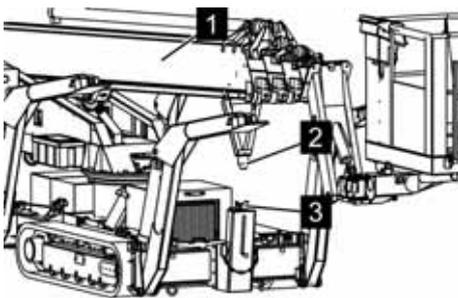

Fig. 74: Lifting the telescopic arm
1. ➤ Lift the telescopic arm (Fig. 74/1) until the attachment centring (Fig. 74/2) is about 35 to 40 cm away from the telescopic arm attachment (Fig. 74/3).